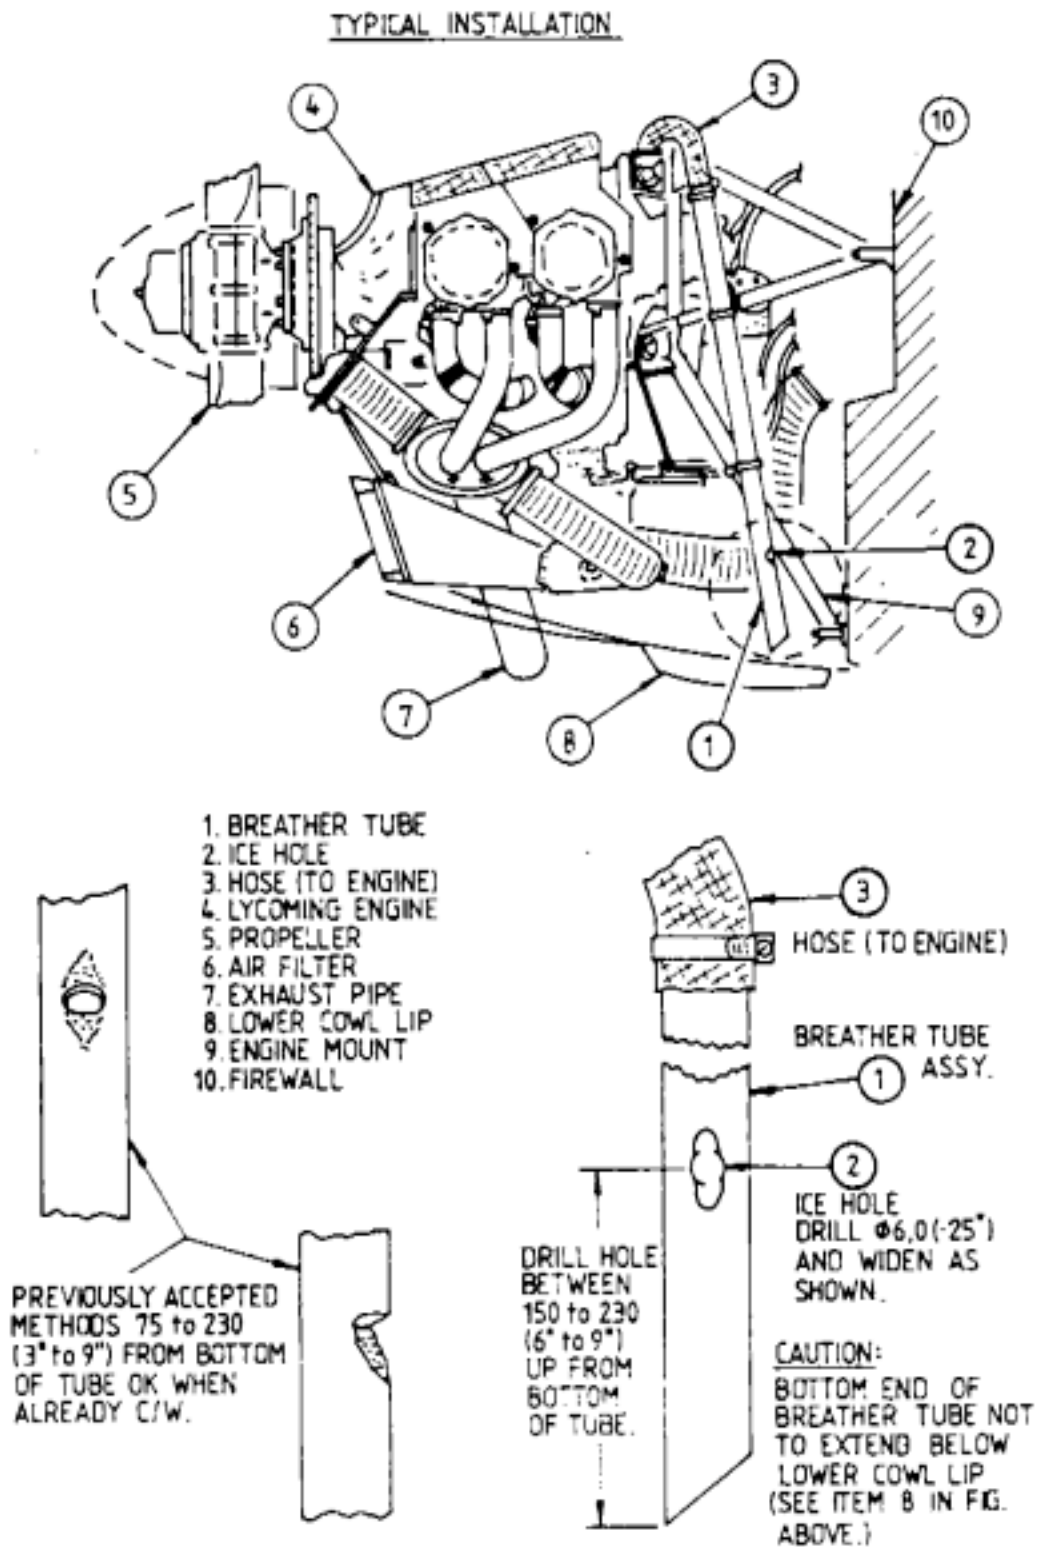

FIGURE 1.
1. Visually examine the engine crankcase breather to determine if an alternate air outlet is drilled or cut in the tube as shown in Figure 1. If any of these provisions exist, make an appropriate entry in the aircraft maintenance records. No further action is necessary.
2. If the hole or cutout shown in Figure 1 is not in the engine crankcase breather tube:
- (b) Drill the engine crankcase breather tube line to include an alternate air outlet as shown in Figure 1.